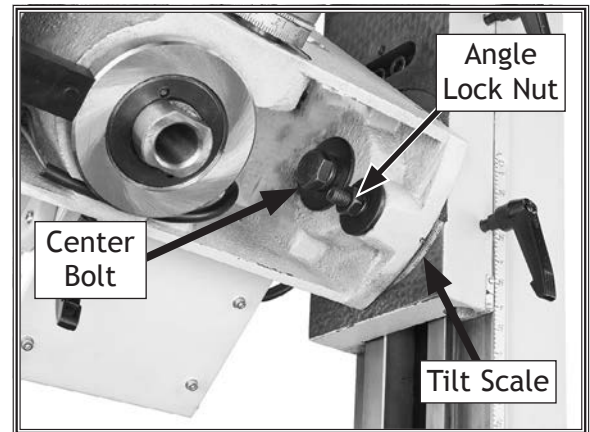

Figure 19. Headstock tilt controls.
2. Support headstock with one hand, then loosen headstock center bolt and angle lock nut (see **Figure 19**).